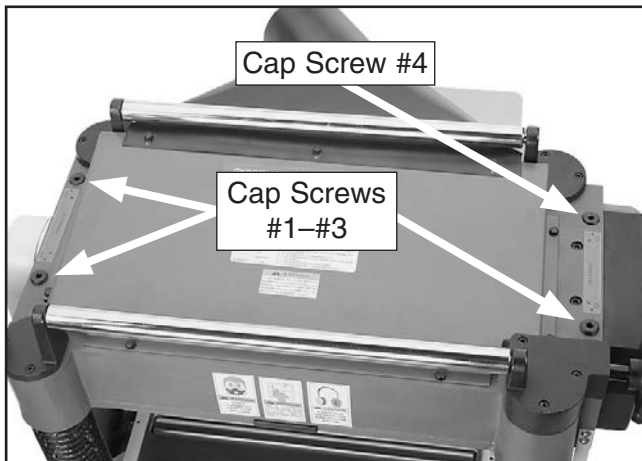

Figure 42. Roller spring tension adjustment cap screws.
2. Adjust tension the #1–#3 cap screws shown in **Figure 42** so that they protrude $\frac{1}{8}$ " above the head casting, and adjust the #4 cap screw so that it protrudes $\frac{5}{16}$ " above the head casting.